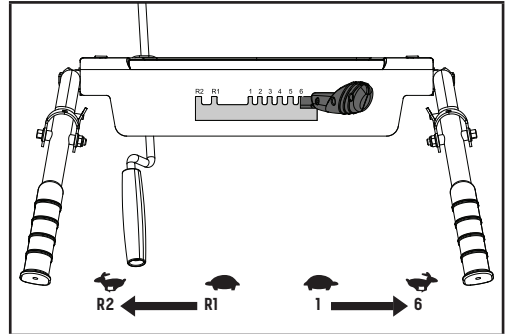

Figure 11
Your snowblower has 6 forward speeds and 2 reverse to regulate forward and backward motion (Fig. 11).
2. Move the speed-control lever to the gear (either forward or reverse) that you require (Fig. 11).